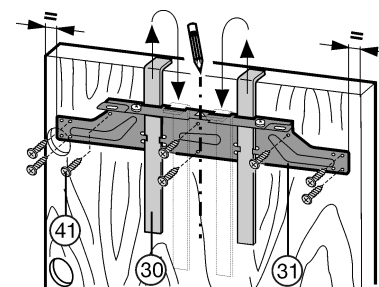

Fig. 26
- ▶ Unscrew the crosspiece Fig. 26 (31) by undoing the lock-nuts Fig. 26 (32).
- ▶ Hang the crosspiece Fig. 26 (31) on the inside of the unit door using the fitting aids Fig. 26 (30).
- ▶ To center the crosspiece Fig. 26 (31): Mark a short center line on the unit door and place the tip of the arrow on the crosspiece over it.
- ▶ To align the crosspiece Fig. 26 (31): Mark a short center line on the unit door and place the tip of the arrow on the crosspiece over it. Now shift the crosspiece Fig. 26 (31) 3/16 in. (5.5 mm) towards the hinge side.
- ▶ Fasten the crosspiece Fig. 26 (31) with at least 6 screws Fig. 26 (41).
- ▶ Fasten the crosspiece Fig. 26 (31) with 4 screws Fig. 26 (41) at the edge.
- ▶ Lift up the fitting aids Fig. 26 (30), turn them around, and insert them into the adjacent openings.